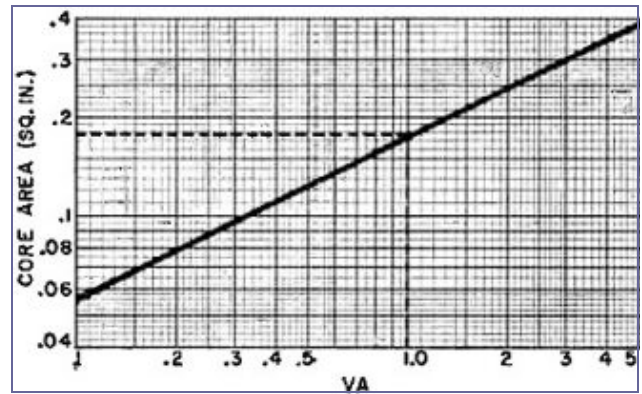

Fig. 2 - Lengthy mathematical computations for determining the transformer core area can be avoided with the aid of the graph shown here.
First calculate the core area required. Note, however, that this core area applies only to the cross-sectional area of the core's center leg as shown in Fig. 1. Referring to Fig. 2, we find that the graph shows an approximate core area of 0.18 sq. in. will suit our requirements. (We can use an approximation since the actual core area is not too critical.)
Step (2). Determine the transformer core area; from the transformer power rating (VA), area is equal to the square root of VA divided by 5.58. A quicker method is to refer to the graph in Fig. 2. Read up from the selected volt-amperes figure to the diagonal line, project to the left and read the core area in square inches.